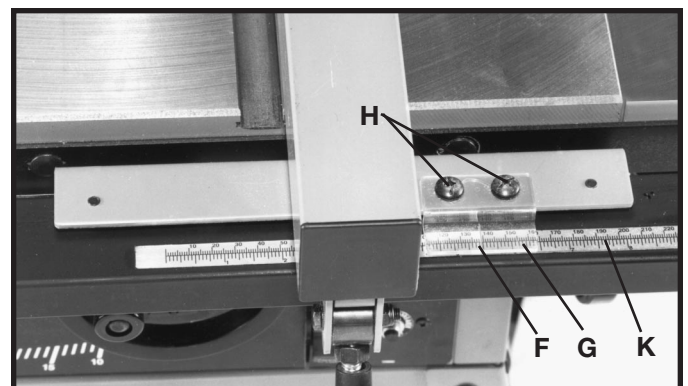

Fig. 48
3. The distance the fence is positioned away from the blade is indicated by the witness line (F) Fig. 48, located on the cursor (G). If it is necessary to adjust the cursor (G), make a test cut with the fence locked in position. Measure the width of the finished cut and adjust the cursor (G) by loosening the two screws (H), adjusting the cursor (G) until the witness line (F) is aligned with the same marking on the scale (K) as the finished cut. Then tighten the two screws (H).